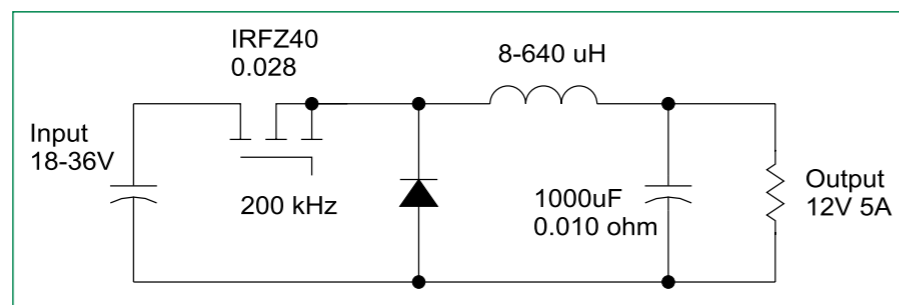
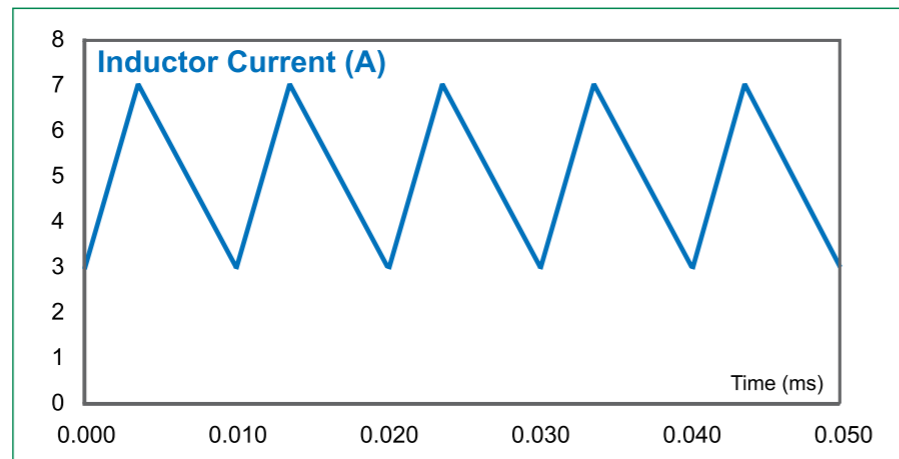

Figure 1: Buck Converter with Parameter Values.
Figure 3: Inductor Current Waveforms 80% Ripple.
For example, Figure 1 shows a specific design case. The switching frequency of the buck converter is 200 kHz, and the output specification is 5A at 12 V from a 18-36 V input. The output capacitor is preselected at 1000 μF with a 10 mΩ ESR. The choice of the output capacitor can be as wide ranging as the choice of the inductor value, and is not discussed in more detail in this article due to space constraints.
There nothing special about choosing the 10% ripple value for Figure 1. It is just one value in the range that could be used. For each value, we must optimize the design of the inductor before we can really assess the performance properly. This can be a time consuming process, but for this study, it was automated using the design software POWER 4-5-6 [18].
Core losses were low for all designs, as would be expected when using a ferrite material. This allows the inductor to operate at high ripple current without a big penalty. (This would not be true for many of the lower-cost core materials found in the standard component designs.) Overall, the overall lowest loss value of inductor gave an 80% ripple ratio. The current waveform for this case is shown in Figure 3.
3. Micrel, "MIC4574 application note", http://www.micrel.com/_PDF/mic4574.pdf, 10% ripple (Figure 3), 34% ripple (Figure 1).